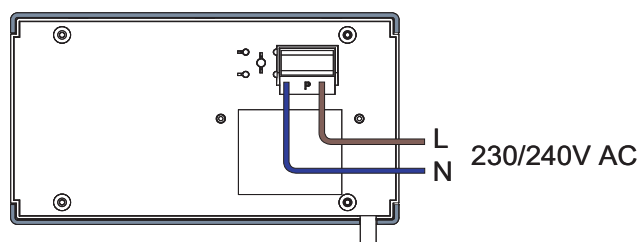

Fig. 3
- Connect the fixed wiring of the premises from the back box to the clearly marked terminals on the Controller - see Fig. 3.
Controller Wiring - see Fig. 3